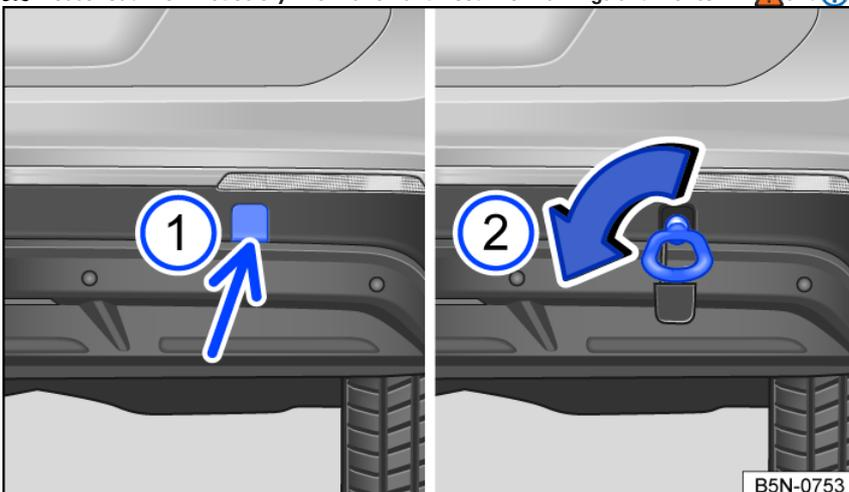

Fig. 187 In the right rear bumper: threaded towing eye.
- Press on the lower section of the cover (arrow) to release the lock on the cover fig. 187 ①.
- Rotate the towing eye **counterclockwise** as far as possible to install it in the mount fig. 187, → ①. Use a suitable object to tighten the towing eye completely and securely in the mount.